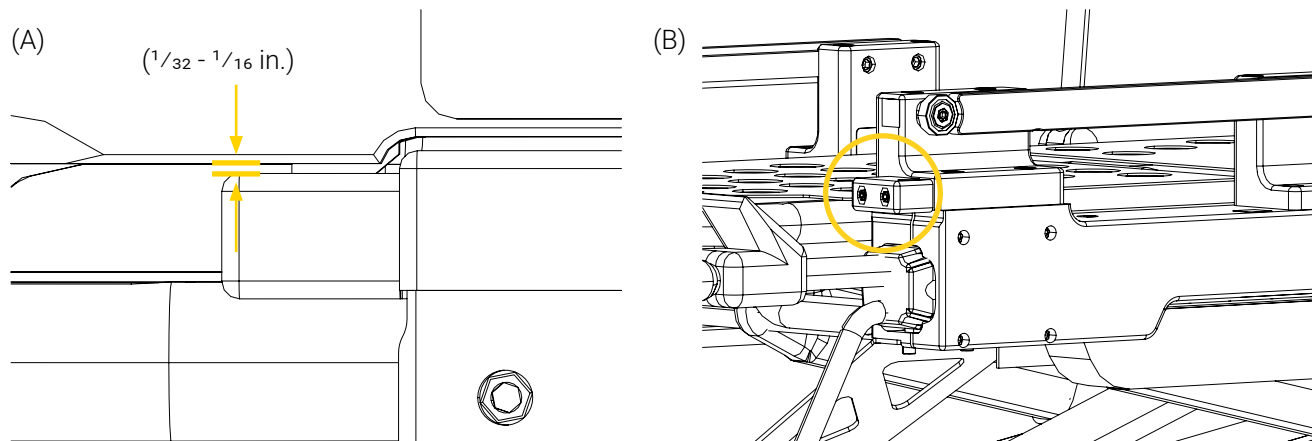

Figure 47: Blocks located at the front of the XTPA-PPXT Rail System
16. Tighten the remaining eight (8) screws of the XTPA-PPXT Rail System using a $\frac{3}{16}$ in. hex key.
18. Leave a gap between $\frac{1}{32}$ - $\frac{1}{16}$ in. between the two (2) small blocks located at the front of the XTPA-PPXT Rail System and the inferior surface of the mobile structure (Figure 47 A).
19. Tighten the two (2) socket head screws on each block using a $\frac{5}{32}$ in. hex key (Figure 47 B).